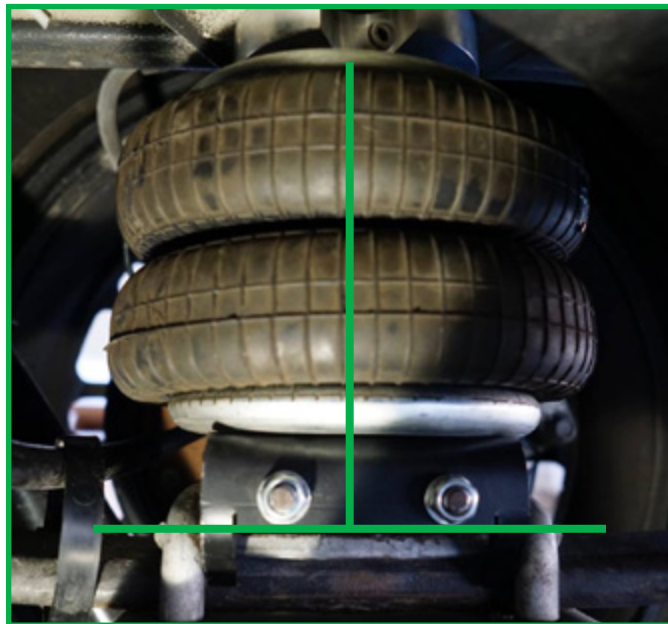

FIGURE 4
2. Plug in the air line into the fitting (Left Black/Right Yellow). Inflate the air spring manually with the provided inflation valve to max. 2 bar. Check the air spring is sitting correctly on the serial leaf spring and verify that the bolts on the upper side of the air spring fit the upper bracket holes. (Figure 4)